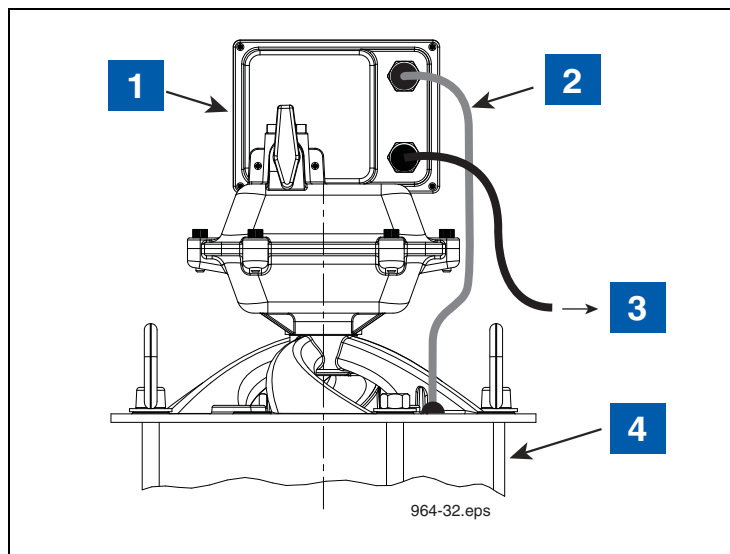

Figure 28. Attaching Transmitter Cable To CCVP
9. Attach the connector end of the CCVP cable to the Carbon Canister's Vapor Polisher connector (see Figure 28).
LEGEND FOR NUMBERED BOXES IN Figure 28